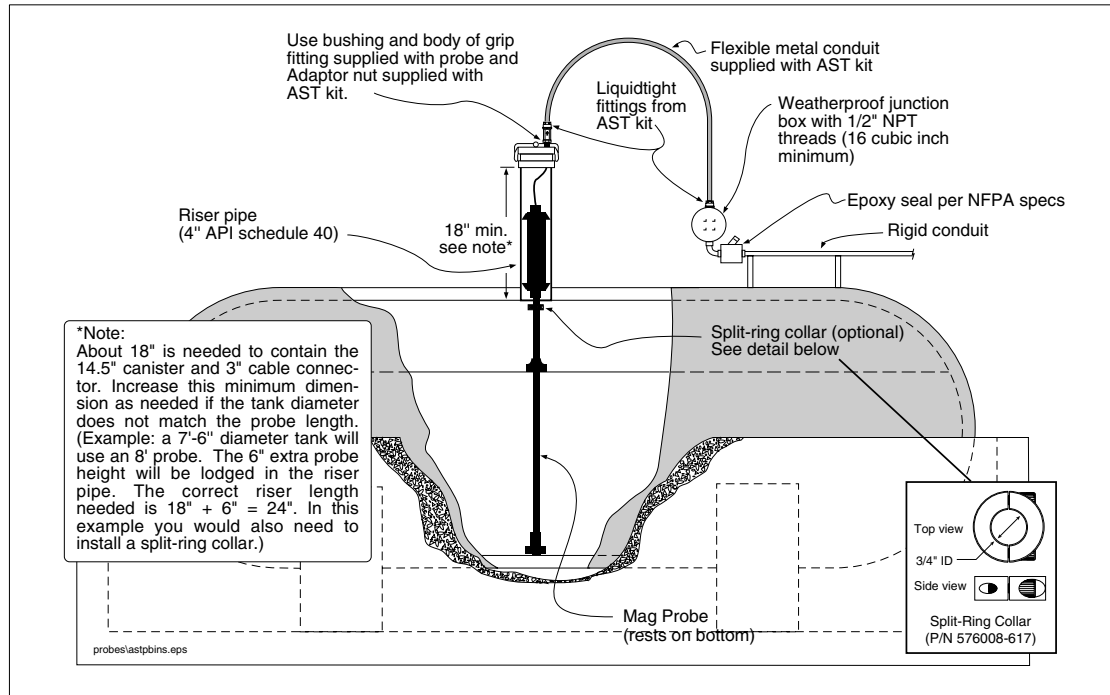

Figure 14. Probe installation - dedicated riser
3. Gently slide the float(s) to the bottom of the probe shaft before raising the probe. Carefully lower the probe into the riser pipe until the boot rests on the bottom of the tank [See Figure 14].